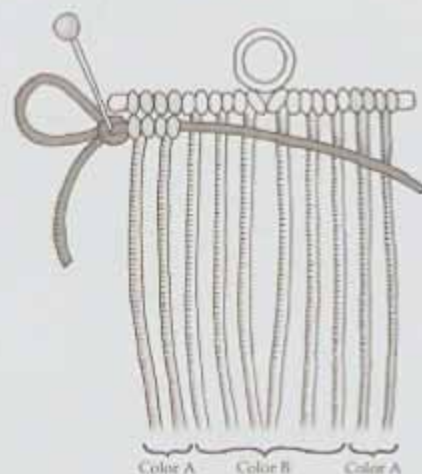

Fig. 4
6. Pin the cord onto the board through the **SLK**, positioning it directly to the left of the Cd # 1 and directly below the metal bar (see Figure 4). Bring the long end of the **Runner** to the right.